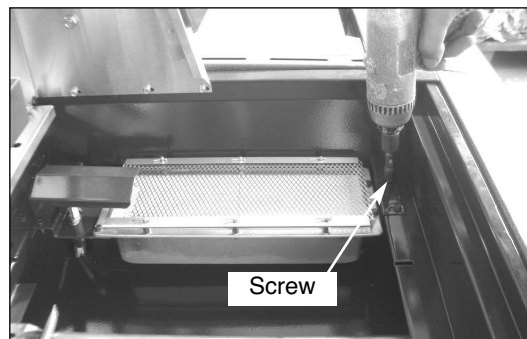

Fig 5
5. Remove the screw holding the front searing burner mounting bracket to the front heat shield. (See Fig. 5)